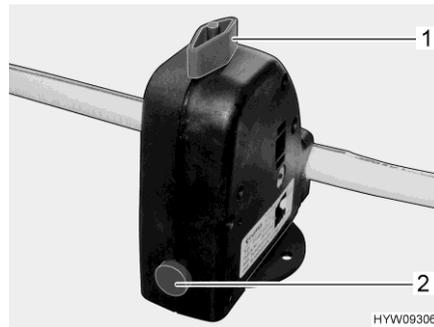

Fig. 82 Safety/drainage valve (boiler)
The boiler is equipped with a safety/drainage valve (Fig. 82). The safety/drainage valve prevents water in the boiler from freezing, when there is frost and the heater is not switched on.
- Close the safety/drainage valve. Turn the knob (Fig. 82,1) perpendicular to the safety/drainage valve and push the push button (Fig. 82,2) in.
- Open the safety/drainage valve. To do this turn the knob (Fig. 82,1) parallel to the safety/drainage valve. The push button (Fig. 82,2) jumps out. The boiler is drained to the outside by the safety/drainage valve.